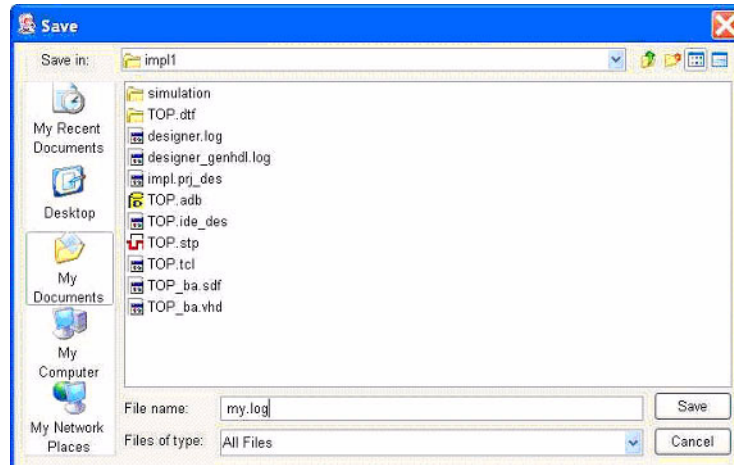

Figure 7-49. Save Log File Dialog Box
1. From the File menu, click **Save Log**. The Save dialog box will appear, as shown in Figure 7-49.